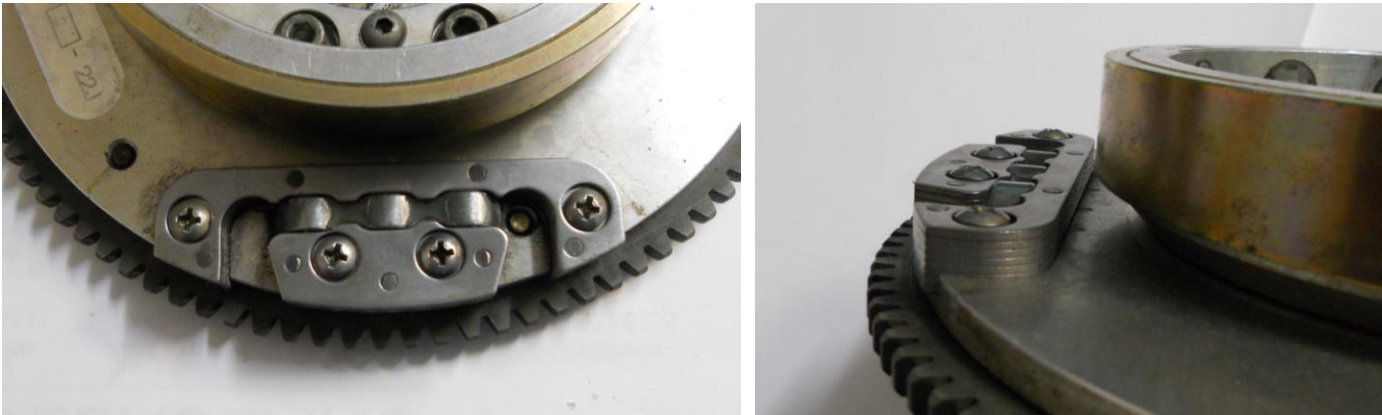

Figure 149 - Laminated Magnet retaining pole plates
- Laminated Pole Plates (shown Figure 149) are fitted with 5/8" 10-32 dome head screws